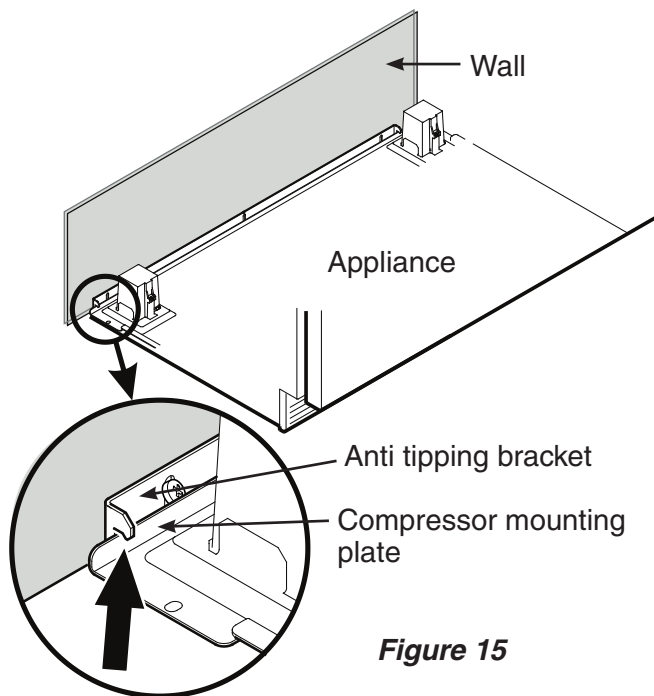

Figure 15
4. Push the appliance slowly to the back wall until the compressor mounting plate makes contact with the anti-tipping bracket (**Figure 15**).
To prevent the appliance from tipping forward the compressor mounting plate must have contact with the anti tipping bracket (Figure 15**).**